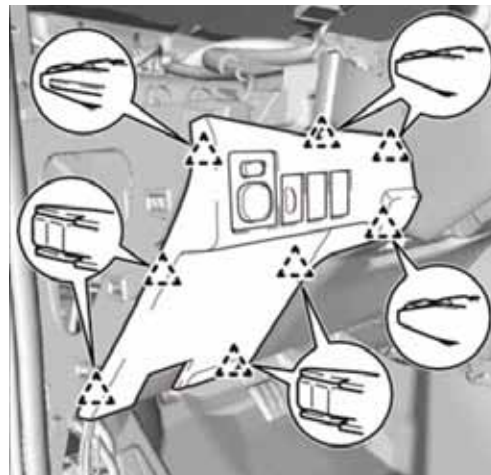

Fig. 3a
1. Disengage the (8) clips, and remove the lower instrument finish panel. Then disconnect any electrical connectors. Using needle-nose pliers, disengage harness clip and remove clip from panel. Remove panel from vehicle and set the panel aside where it will not be damaged. (Fig. 3a)